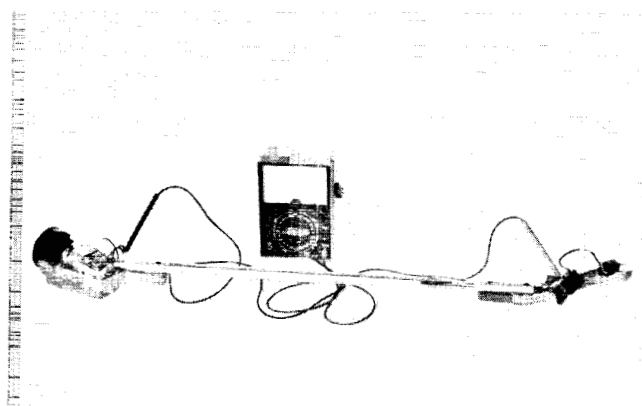

Figure 3.7
3.7 CHECK LOWER HARNESS (fig. 3.7)